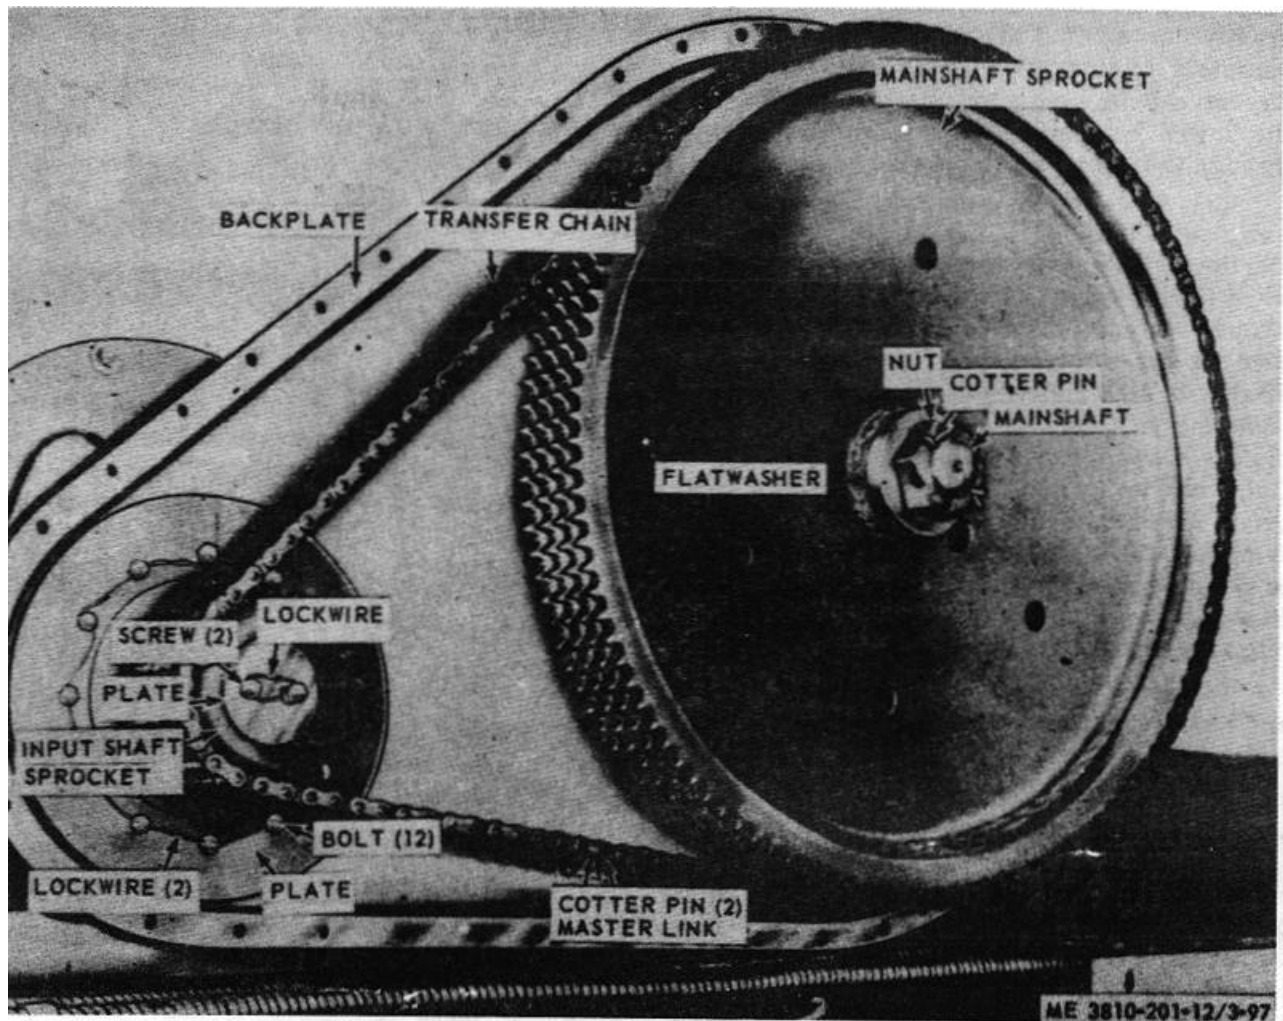

Figure 3-84. Transfer chain, removal and installation
(1) Remove transfer chain case cover (para 3-105).
(2) Remove two cotterpins (fig. 3-84) and master link from chain, then remove transfer chain from input and main shaft sprockets.
(2) Remove transfer chain (para 3-106).
(3) Remove lockwire from two screws in input shaft (fig. 3-84).
(4) Remove two screws and plate, then remove input shaft sprocket from input shaft.
(5) Install in reverse order.